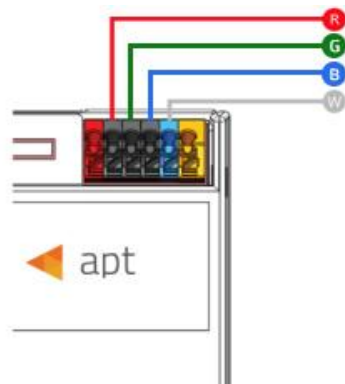

Figure 3 - Wiring APT-CV4-VA-SQ to RGBW LED Module
2. Changing the DMX Address Assignment does not change the physical wiring of the controller to the LED module. Please refer to Figure 3 for RGBW wiring application.